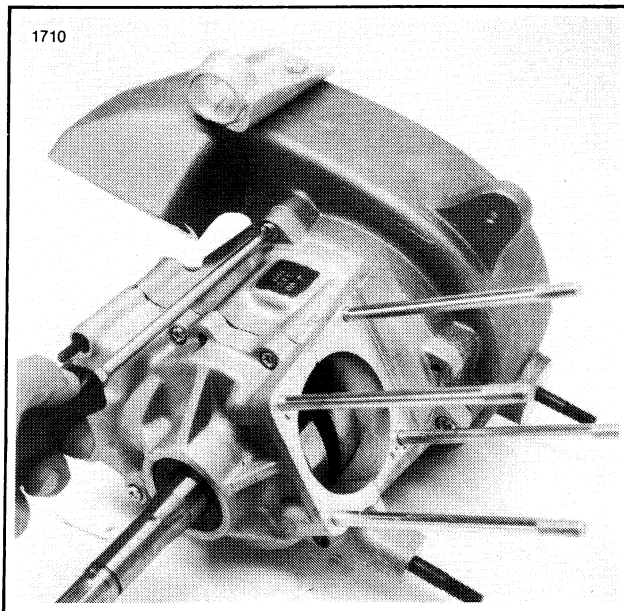

Figure 5-15. Fan Housing Mounting
5. See Figure 5-15. Remove the three screws securing the fan housing to the crankcase.